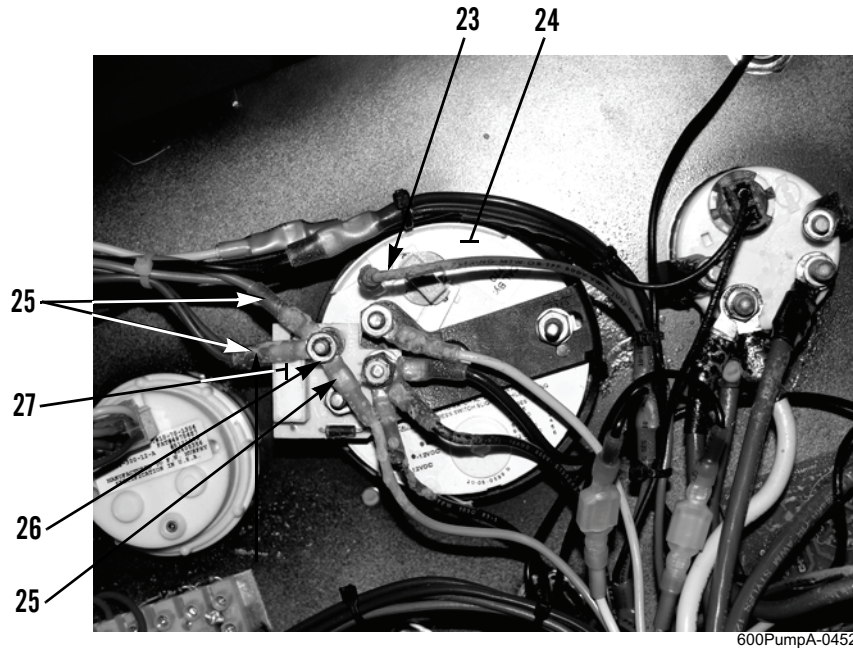

Figure 13. Tachometer Wires.
6. Install five wires (Figure 13, Item 25) on terminal of meter voltage regulator (Figure 13, Item 27) with nut (Figure 13, Item 26).
7. Connect terminal of wire (Figure 13, Item 23) to tachometer (Figure 13, Item 24).